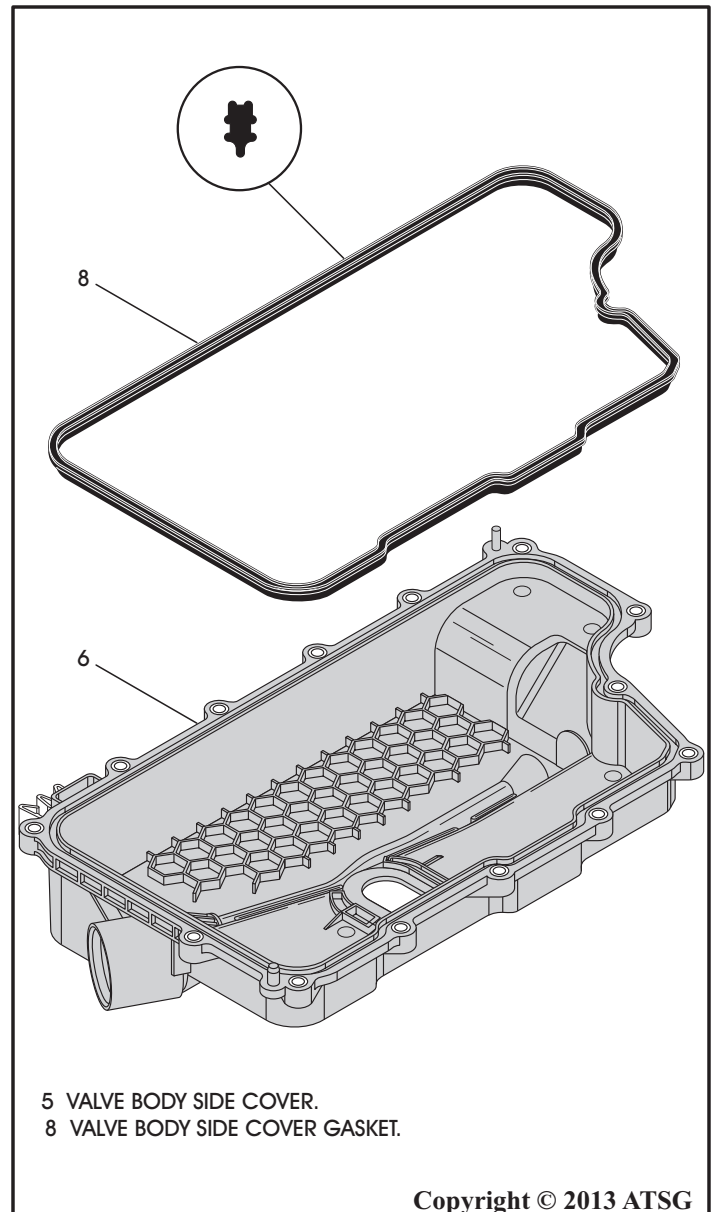

Figure 222
67. Install a new valve body side cover gasket into groove of valve body side cover in the direction shown in Figure 222.